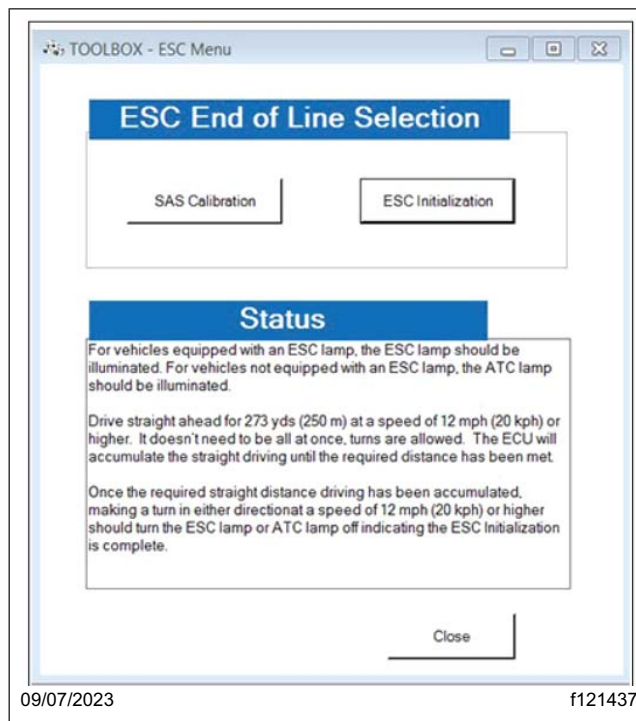

Fig. 21, ESC Initialization Status
20.4 ESC Initialization instructions will appear in the Status window. See Fig. 21